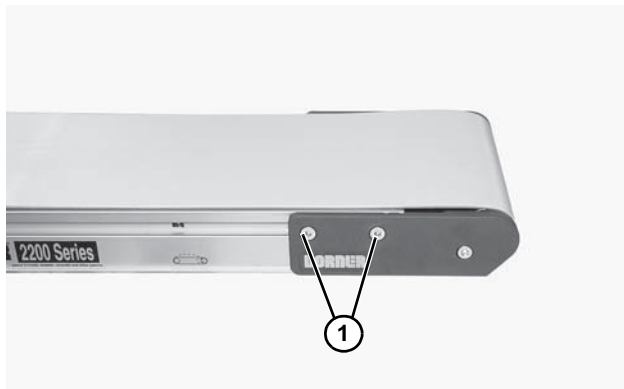

Figure 31
1. On one side of the conveyor, loosen two (2) head plate fastening screws (**Figure 31, item 1**) and remove them.